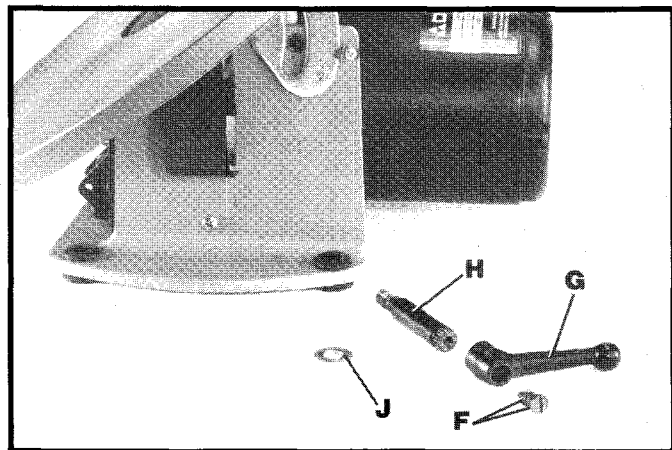

Fig. 5
3. To facilitate assembly of table lock knob assembly, remove screw and spring (F) Fig. 5, and handle (G) from stud (H). Place washer (J) on threaded end of stud (H).